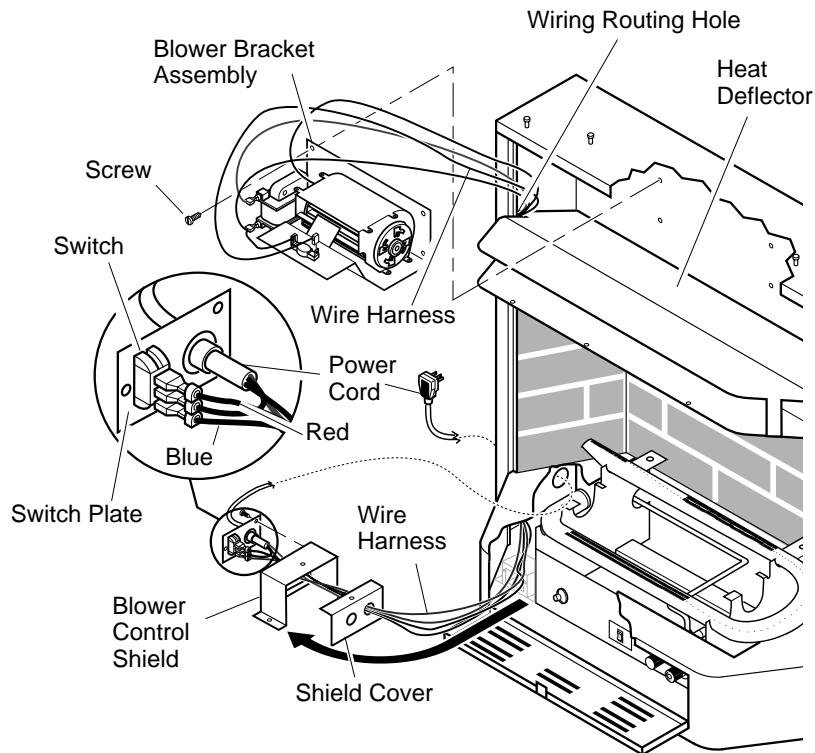
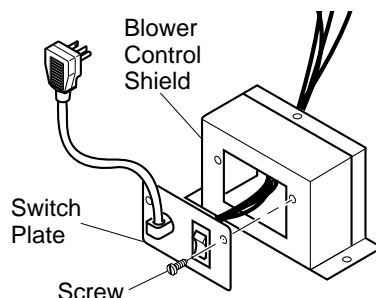

Figure 16 - Installing Blower Bracket Assembly
Figure 17 - Installing Switch Plate to Blower Control Shield
4. Note the wire locations on back of AUTO/OFF/ON switch. Carefully remove red wire from the AUTO terminal and blue wire from the ON terminal. Black wire can remain on the middle or OFF terminal (see Figure 16).
6. In top of the heater cabinet, locate the four mounting holes on the outer casing. Align these four holes with those on the blower bracket assembly. Attach blower bracket assembly to the outer casing with 4 - #10 screws provided (see Figure 16).
7. Route the wire harness through the hole to the left side of heat deflector. Pull wire harness through lower opening to the left of the blower control shield. (see Figure 16).
8. Insert the 4 wire harness into one of the round holes in the rear of the blower control shield and through the rectangular hole in the front of shield (see Figure 16).
10. Install the switch plate on the blower control shield with 2 - #10 screws provided (see Figure 17). Route power cord out of the cabinet by inserting it through the bushing on the outer casing (see Figure 16). Plug fan kit into 120-Volt grounded power supply and test operation. **Note:** When switch is in the AUTO